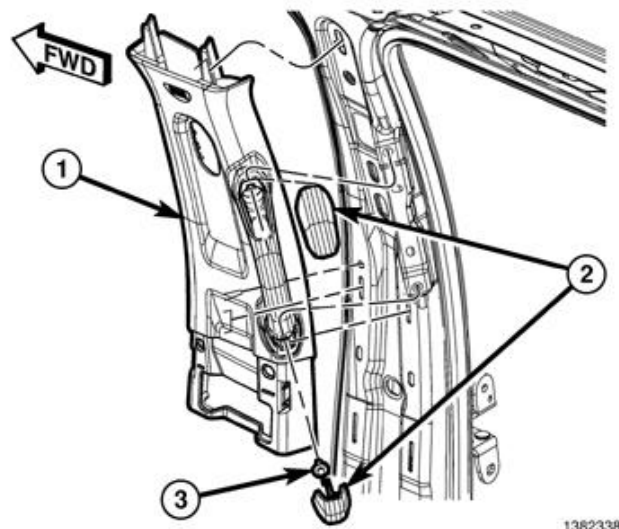

Figure 60 – B-Pillar Upper Trim Panel
8. On the B-pillar, use a small flat-bladed tool to carefully open the two fastener covers (2) located on the grab handle (Figure 60).
9. Remove the two bolts (3) that secure the grab handle to the B-pillar (Figure 60).
10. Using a trim stick C-4755 or equivalent, release the retaining clips that secure the B-pillar upper trim panel (1) then position the trim panel out of the way. It is not necessary to remove the seat belt from the trim panel (Figure 60).